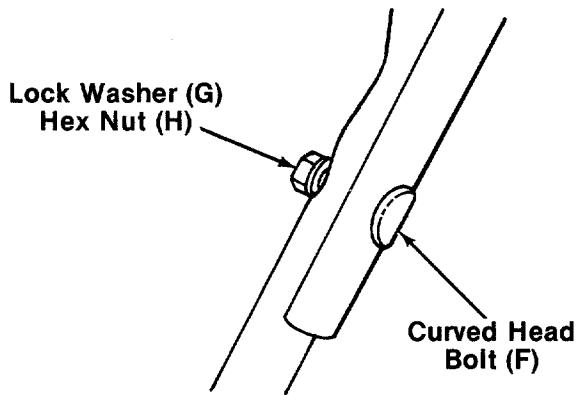

FIGURE 3.
2. Place the upper handle in position over the lower handle. The control housing (on units so equipped) must be on the right hand side of the handle. Secure the left hand side of upper handle using the curved head bolt (F), lock washer (G) and hex nut (H) as shown in figure 3.